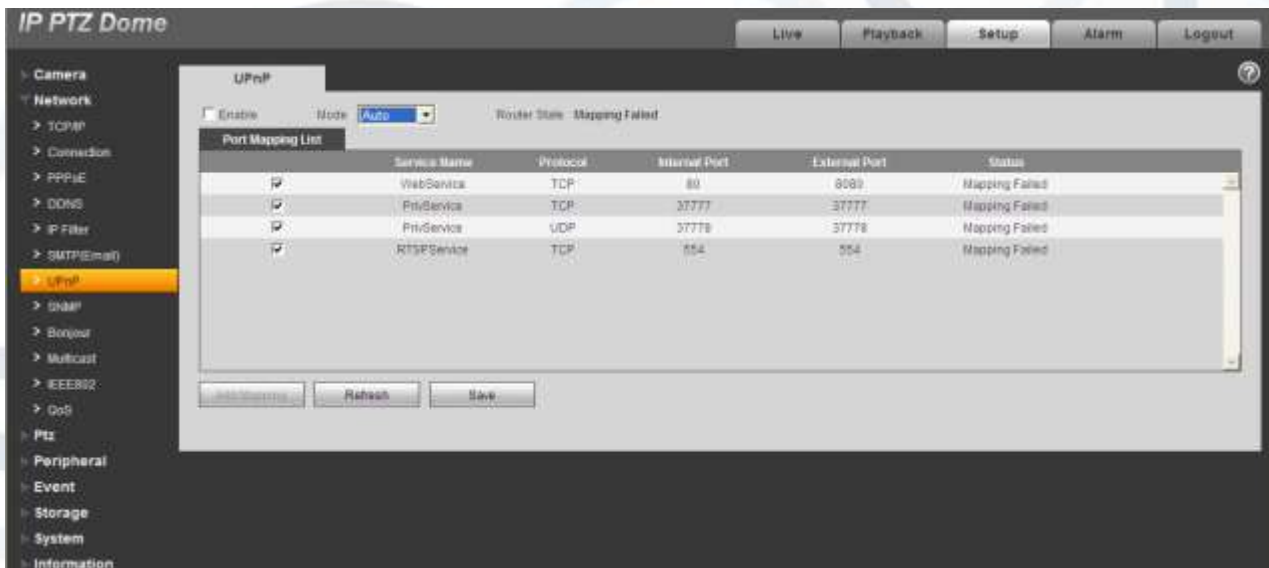

Figure 6-39
- **Auto mode:** The mapping is fixed and cannot be added/deleted/modified. See Figure 6-39.